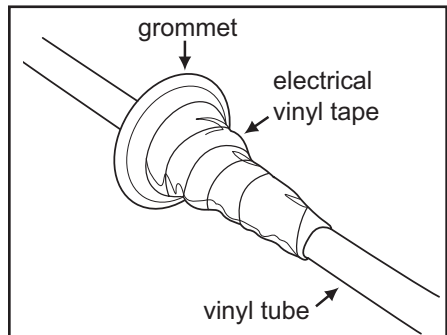

Fig. 2
- Secure the grommet to the tube with electrical vinyl tape (See Fig. 2).